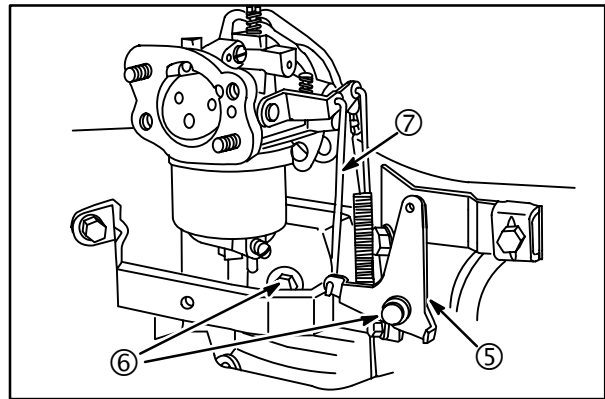
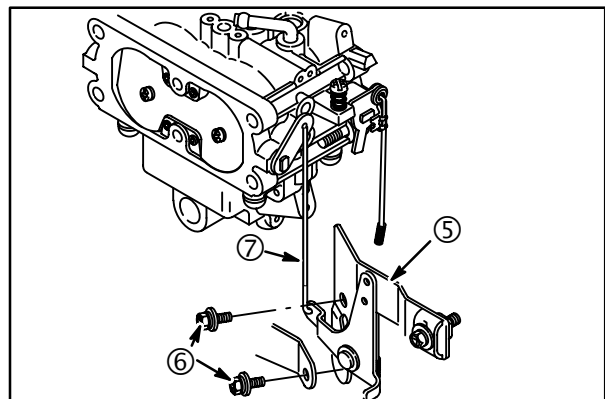

Fig. 27
Fig. 28
- Connect choke link (7) to choke lever and install choke control bracket (5), **single barrel carburetor, Fig. 27, two barrel carburetor, Fig. 28**. Torque screws (6) to **65 in. lbs. (7 Nm)**.